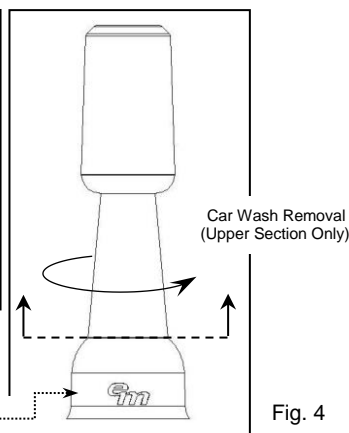

Fig. 4
C. **CAR WASH REMOVAL (Fig. 4):** Using one hand, hold the antenna at the base adapter with a firm grip. Using the opposite hand, detach the Poly Spring from the base by unthreading with a Counter Clockwise (CCW) rotation. **Note: Leave the NMO Base Adapter attached to the NMO mount to protect the mount from water and debris.**